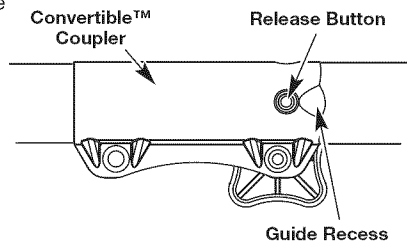

Fig. 4
NOTE: Aligning the release button with the guide recess will help installation (Fig. 4).
- Press and hold the release button (Fig. 4).